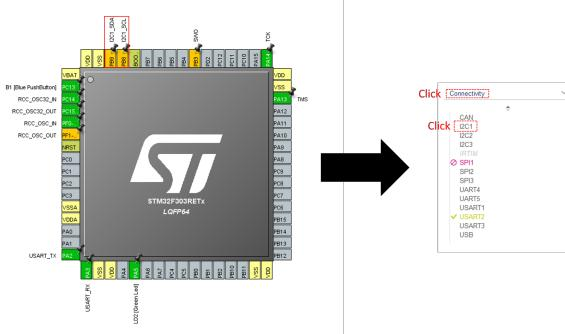
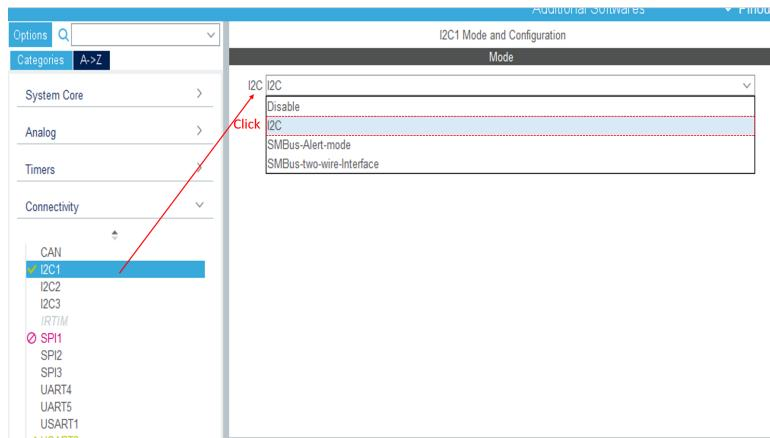

Figure 3.5: Orange pins to be activated [3].
Figure 3.6: Orange pins to be activated [3].
- Once the functions selected, the pins appear in orange (framed in red on the fig. 3.5). To activate the pins, go to *Connectivity* section, click on the type of I2C chosen, in our case the 1, which will be by default on *disable* and select I2C as shown on the fig. 3.6 ;